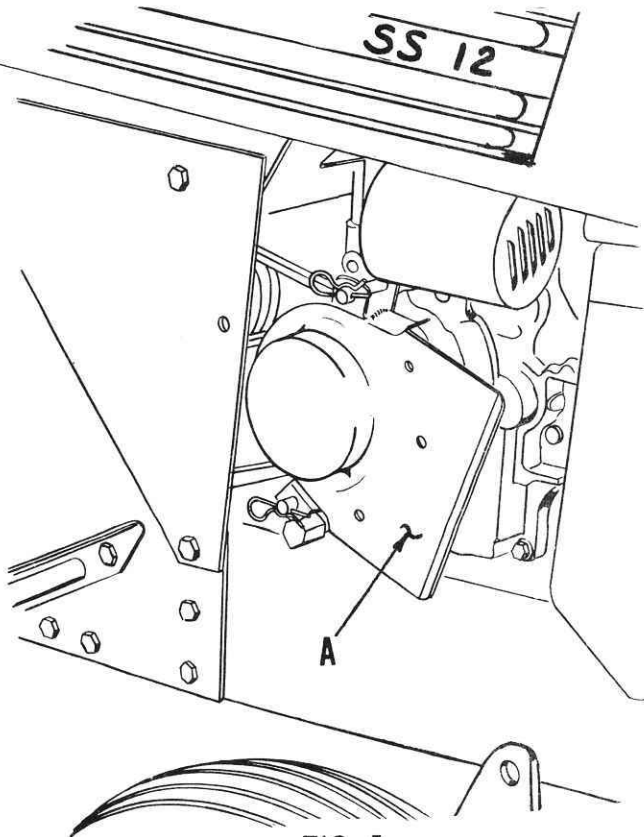

FIG. 5
1. The belt guard (A, Fig. 5), is used for the Rotary Mower, Cutter Bar Mower and Rotary Snowplow. However, this belt guard can be left in place for normal tractor operation even when one of the above attachments are not being used. The machine screws, bushings and nuts shipped with guard should be stored in a safe place or positioned in the guard for safe keeping. Instructions for the placement of the screws, bushings and nuts can be found in the attachment Instruction book.